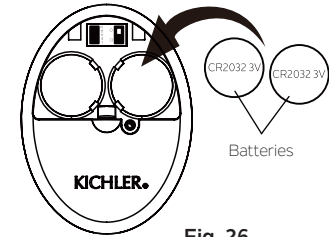

Fig. 26
Step 3. To make fan operational, install two 3V CR2032 batteries (included). (Fig. 26)